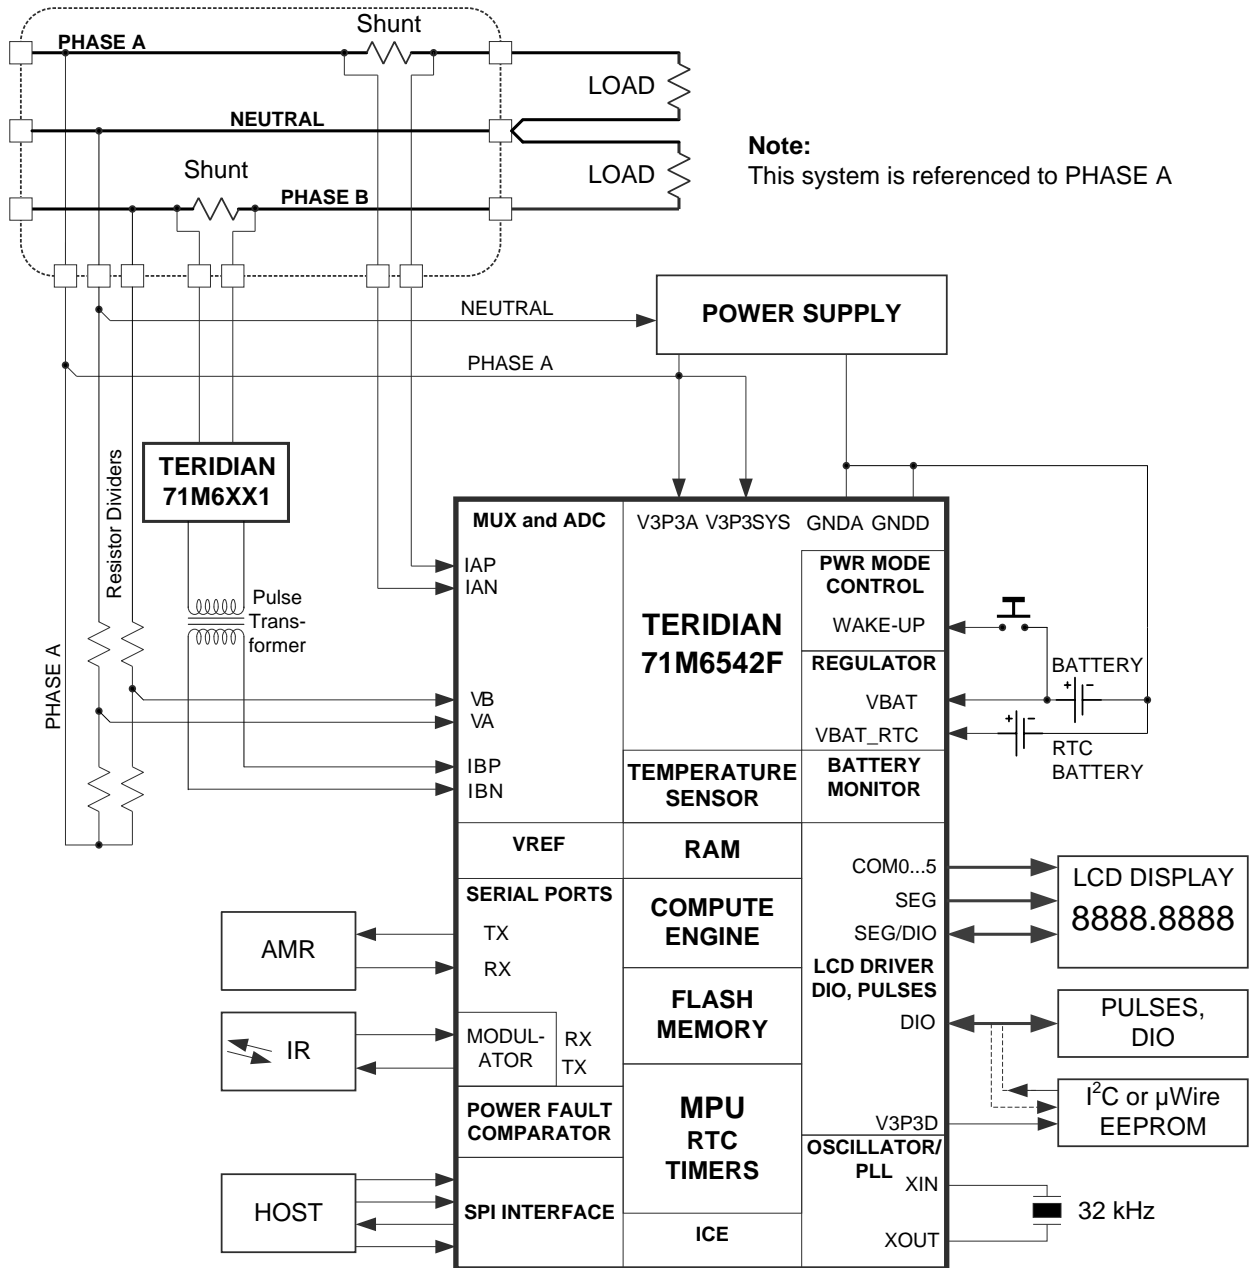

Figure 38: 71M6542F/G with 71M6x01 Isolated Sensor
Figure 38 shows a 71M6542F/G configuration using locally connected current sensors. The IAP-IAN current channel may be directly connected to either a shunt resistor or a CT, while the IBP-IBN channel is connected to a CT and is therefore isolated. This configuration implements a dual-phase measurement utilizing Equation 2. For best performance, both the IAP-IAN and IBP-IBN current sensor inputs are configured for differential mode (i.e., $DIFFA_E = 1$ and $DIFFB_E = 1$, I/O RAM 0x210C[4] and 0x210C[5]). The IBP-IBN input must be configured as an analog differential input disabling the remote sensor interface (i.e., $RMT_E = 0$, I/O RAM 0x2709[3]). See Figure 4 for the AFE configuration corresponding to Figure 38.
Figure 38 shows a typical two-phase connection for the 71M6542F/G using one isolated and one non-isolated sensor. For best performance, the IAP-IAN current sensor input is configured for differential mode (i.e., *DIFFA_E* = 1, *I/O RAM 0x210C[4]*). The 71M6x01 Isolated Sensor Interface is used to isolate phase B. The outputs of the 71M6x01 Isolated Sensor Interface are routed through a pulse transformer, which is connected to the pins IBP-IBN. The IBP-IBN pins must be configured for remote sensor communication (i.e., *RMT_E* = 1, *I/O RAM 0x2709[3]*). See Figure 5 for the AFE configuration corresponding to Figure 38.
This section discusses metrology temperature compensation for the meter designs where current shunt sensors are used in conjunction with the Teridian 71M6x01 isolated sensors, as shown in Figure 36 and Figure 38.
Referring to Figure 36 and Figure 38, the VA voltage sensor is available in both the 71M6541D/F/G and 71M6542F/G and is directly connected to the 71M654x. The VB voltage sensor is available only in the 71M6542F/G and is also directly connected to it. Thus, the precision of these directly connected voltage sensors is affected by VREF in the 71M654x. The 71M654x also has one shunt current sensor (IA) which is connected directly to it, and therefore is also affected by the VREF in the 71M654x. The external current sensor and its corresponding signal conditioning circuit also has a temperature dependency, which also may require compensation, depending on the required accuracy class. Finally, the second current sensor (IB) is isolated by the 71M6x01 and depends on the VREF of the 71M6x01, plus the variation of the corresponding shunt resistance with temperature.